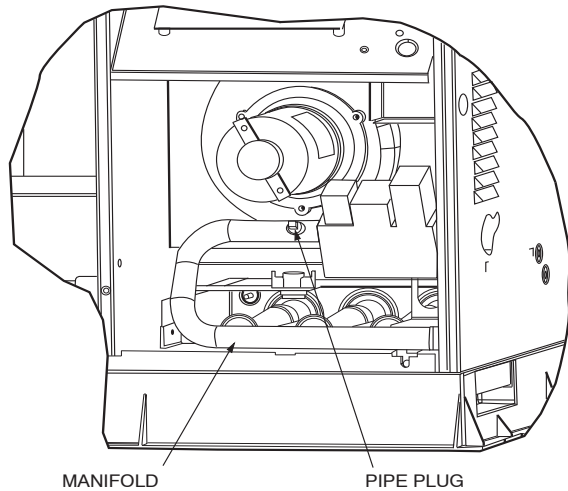

Fig. 4 - Two-Stage Burner Assembly
30. Remove the 1/8 in. pipe plug on the gas manifold and connect a pressure manometer (see Fig. 4).
34. Turn off unit, remove pressure manometer and replace the 1/8 in. pipe fitting on the gas manifold (see Fig. 4).